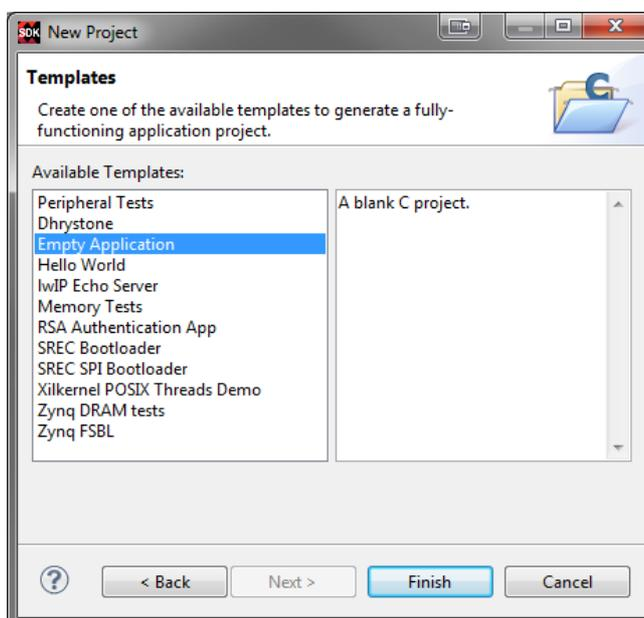

Figure 1.28: New Project Template Dialogue
- (c) At the *New Project Templates* screen, select **Empty Application**, as in Figure 1.28, and click **Finish** to create the project.